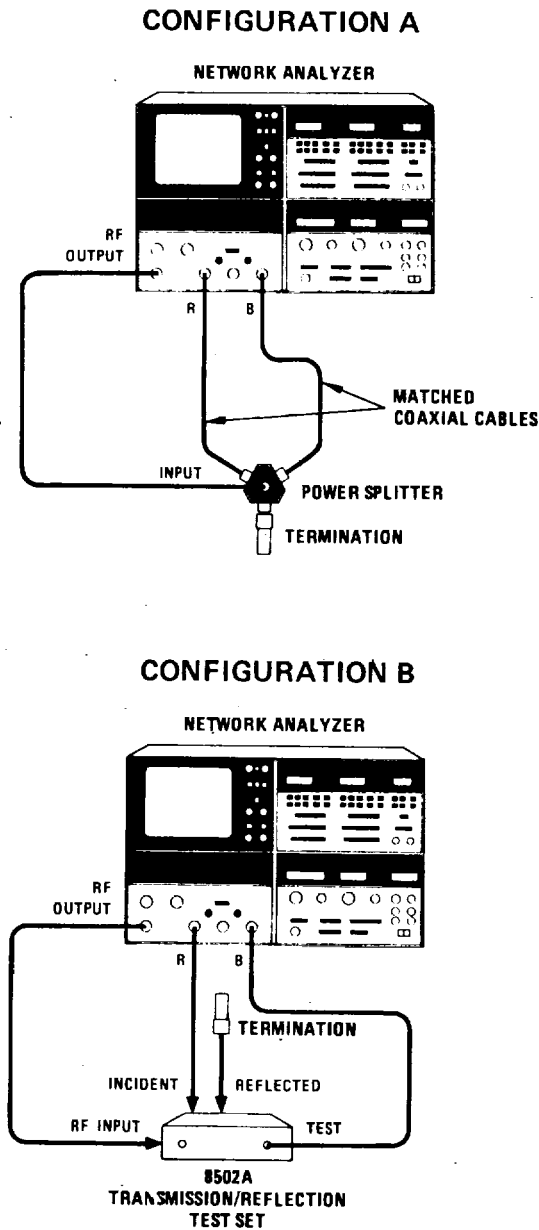
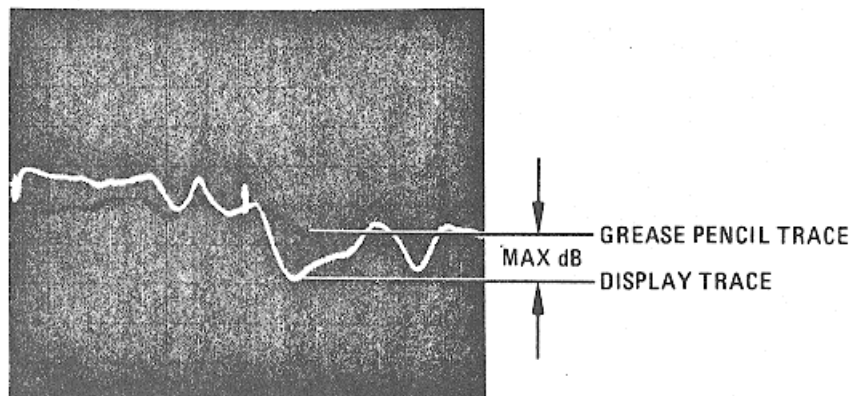
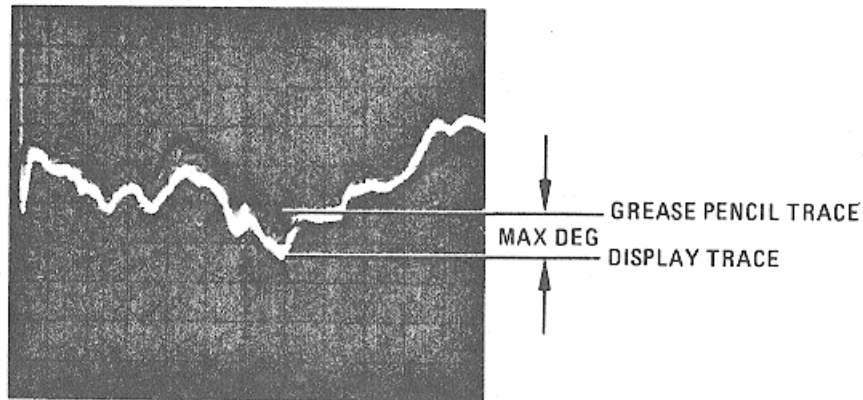

Figure 6. Transmission Frequency Response Test Setup
Figure 7. Transmission Frequency Response Magnitude
Figure 8. Transmission Frequency Response Phase
b. Connect equipment as shown in Figure 6, Configuration A.
- (1) On the 8505A Signal Processor Channel 1 press DISPLAY MKR and ZRO pushbuttons to place marker on reference line and to zero digital readout.
- (2) Grease pencil the trace on the CRT.
- f. To measure the transmission magnitude frequency response of the 8502A connect equipment as shown in Figure 6, Configuration B.
- (1) Set 8502A RF INPUT ATTENUATION control to zero dB.
- (2) On 8505A Signal Processor Channel 1 press REF OFFSET pushbuttons to center the display around the grease pencil magnitude trace.
- (3) Measure the maximum difference between the grease pencil trace and the display trace (Figure 7). This measured value should be <0.8 dB.
- g. To determine the phase frequency response of the Network Analyzer connect equipment as shown in Figure 6, Configuration A:
- (1) Remove CRT grease pencil traces from previous test.
- (2) Turn 8505A Signal Processor Channel I MODE switch to OFF and Channel 2 MODE switch to PHASE.
- (3) On the 8505A Signal Processor Electrical Length, press the LENGTH pushbuttons and adjust VERNIER B control to display a horizontal trace on the CRT.
- (4) Set 8505A Signal Processor Channel 2 SCALE/DIV switch to 2 DEG.
- (5) On the 8505A Signal Processor Channel 2 press DISPLAY MKR and ZRO pushbuttons to place marker on reference line and to zero digital readout.
- (6) Grease pencil the trace on the CRT.
- h. To measure the transmission phase frequency response of the 8502A connect equipment as shown in Figure 6, Configuration B.
- (1) Set 8505A Signal Processor Channel 2 SCALE/DIV switch to 90 DEG.
- (2) On 8505A Signal Processor Electrical Length press the LENGTH pushbuttons and adjust VERNIER B control to display a horizontal trace on the CRT.
- (3) Set 8505A Signal Processor Channel 2 SCALE/DIV switch to 2 DEG and repeat step h (2).
- (4) On 8505A Signal Processor Channel 2 press MKR and ZRO pushbuttons.
- (5) On 8505A Signal Processor Channel 2 press the REF OFFSET pushbuttons to center the display around the grease pencil phase trace.
- (6) Measure the maximum difference between the grease pencil trace and the display trace (Figure 8). This measured value should be $\pm 8^\circ$.